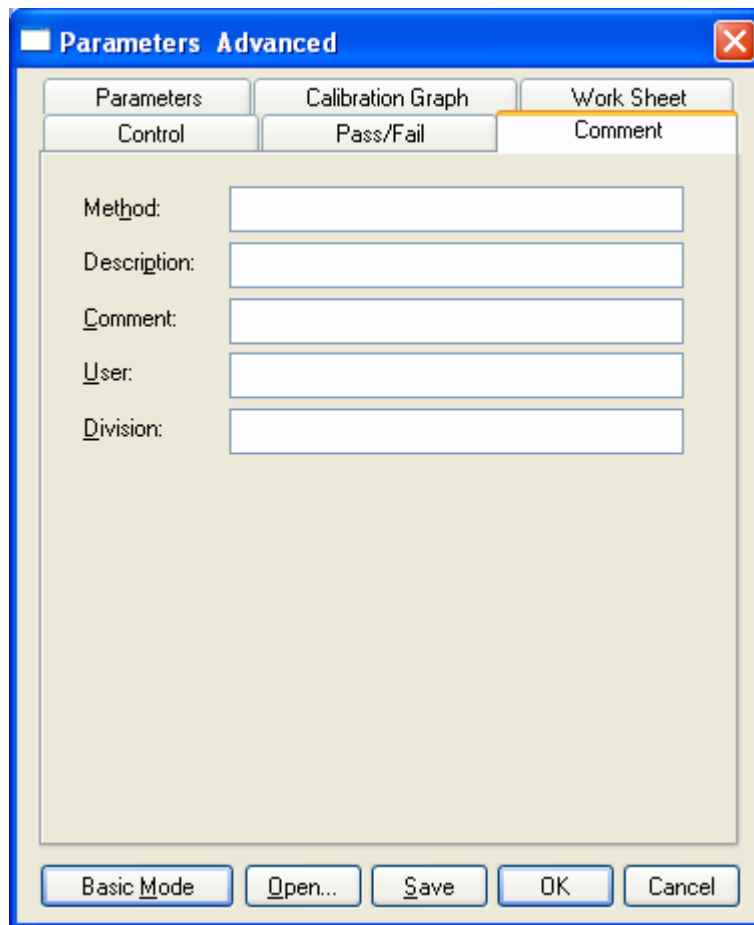

Figure 5.16 [Parameters Advanced] Dialog, [Comment] tab
(6) Click on the [Comment] tab (see Fig. 5.16).